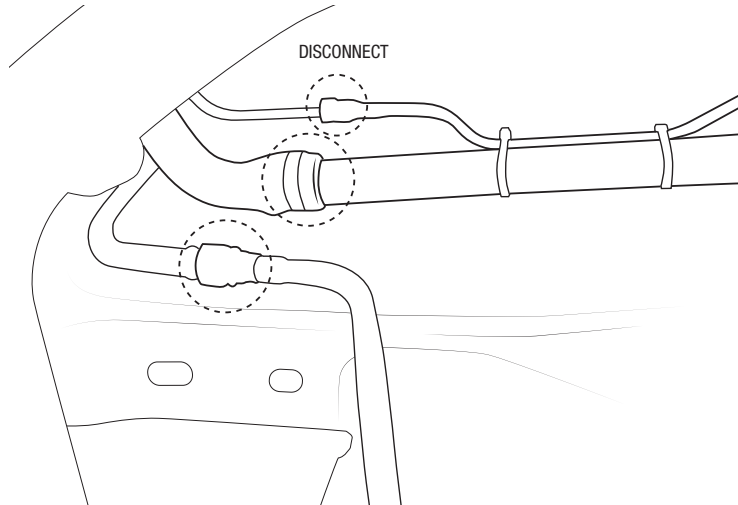

Figure 9
26. Disconnect the fuel filler, charcoal canister, and fuel filler vent (fig 9).